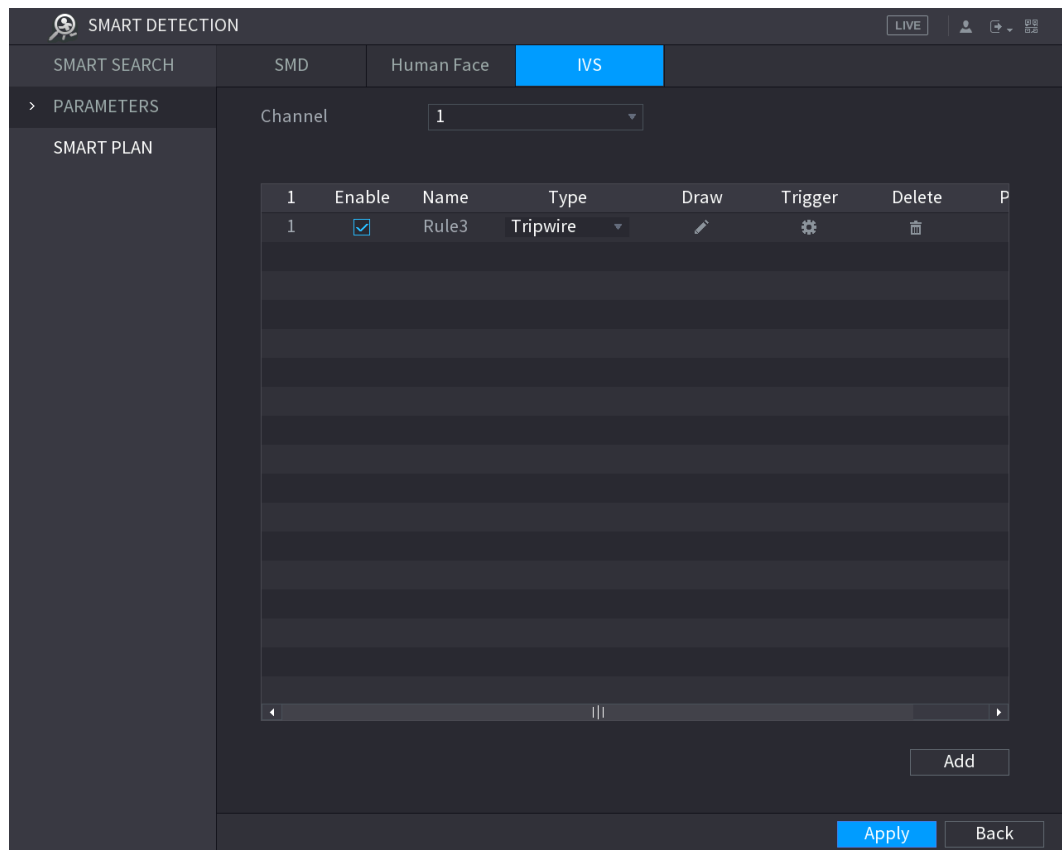

Figure 5-150
Step 1 On the rule line that you added, in the **Type** list, select **Tripwire**. See Figure 5-150.